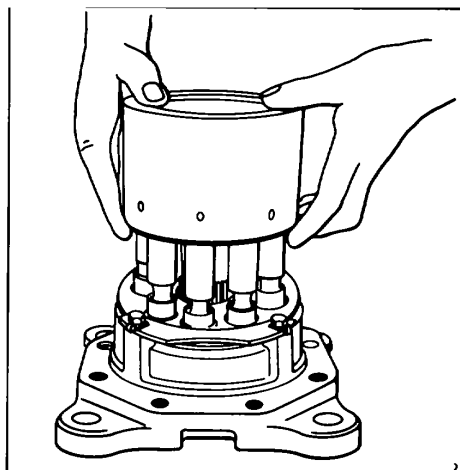

Figure 198.
Remove the cylinder block (40) by lifting it straight up off the piston assemblies See Fig. 198.